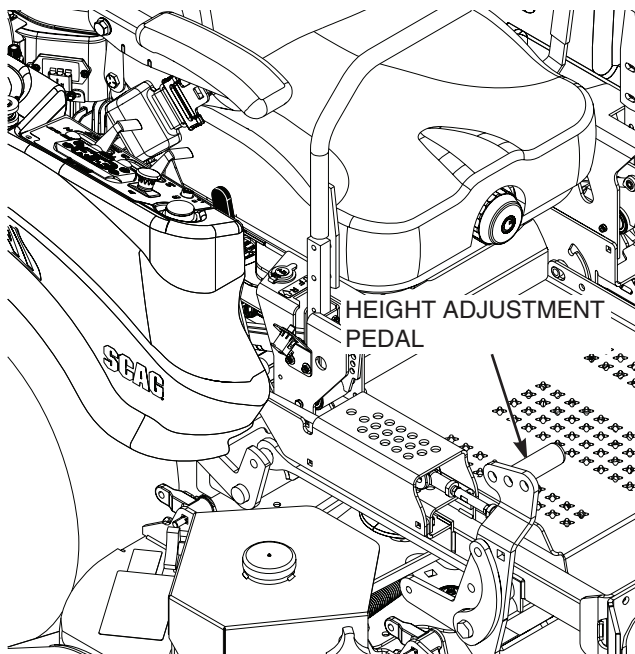

Figure 4-8. Adjusting Cutting Height
2. Push the cutting height adjustment foot pedal all the way forward using your right foot until it locks in place. See Figure 4-8.
3. Insert the lanyard pin into the cutting height index at the desired cutting height. Push forward on the deck lift foot lever, hold in place and pull back on the deck release lever. See Figure 4-9. Slowly release the foot pedal. A deck height decal is located on the cutting height index as an aid in adjusting the deck to the desired height. See Figure 4-8.